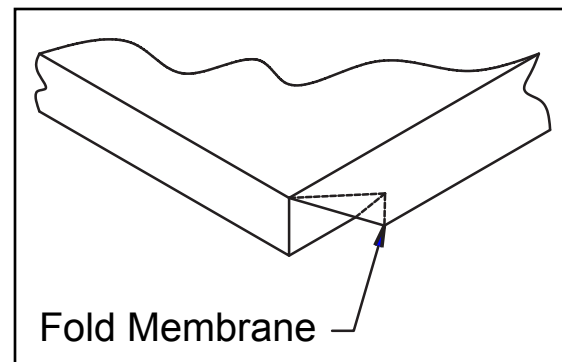

Figure 4
5. Fold all four corners of the membrane roofing material over the walk-in corners as shown in Figure 4.